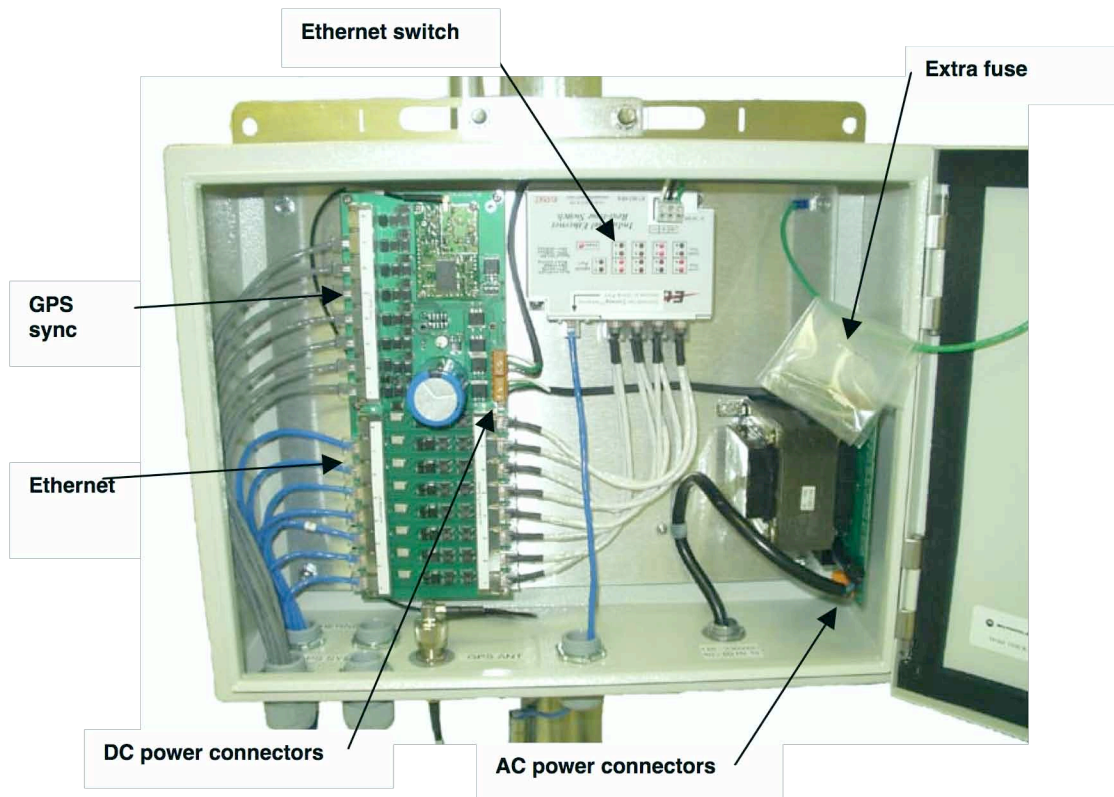

Figure 125: Canopy CMM2, front view
8. Connect the Ethernet cable from the first AP or BH to the **Port 1** in the J3 ports in the CMM2. This port is the *master* Ethernet port for the CMM2 and should be connected first in all cases. Figure 125 on Page 339 is a photograph of a properly wired CMM2.
11. Connect the GPS sync cable from the first AP or BH to the **Port 1** in the J1 ports in the CMM2. See Figure 125 on Page 339.